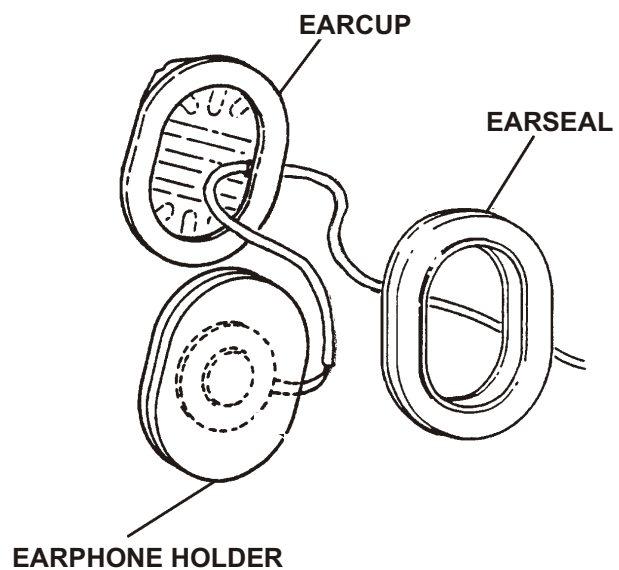

Figure 3-7. Earseal, Earphone Holder, and Earphone
2. Referring to Figure 3-7, remove the earseal by carefully stretching it away from the lip of the earcup shell.